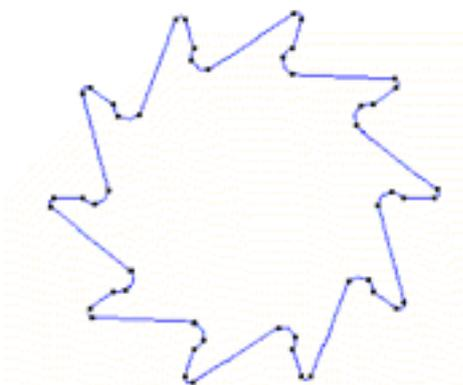

Figure 15. The part resulting from this process
- 5 . Click **Select** and select the profile. Press the **ESC** key or click **Finish** in the **Copy** window in order to conclude the operation. The result is shown in Figure 15.